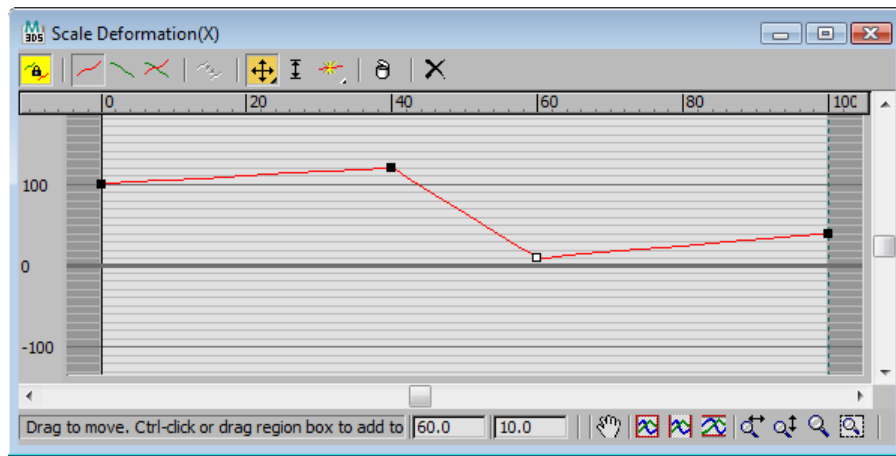

Figure 9-5A Two vertices are added and moved in the **Scale Deformation** dialog box.
10. Pick the **Move Control Point** button and move this new vertex below the top (100%) line by nine lines until 10 is displayed in the right-hand text box at the bottom of the dialog box, **Figure 9-5A**.